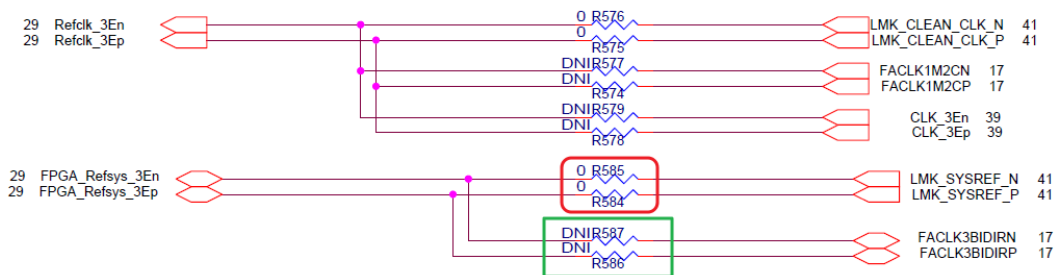

Figure 4-6 The resistors need to be reworked
- Remove the resistors on the R585 and R584 positions in the red box, then install 0 Ohm resistors on the R587 and R586 positions in the green box, as shown in **Figure 4-6**.